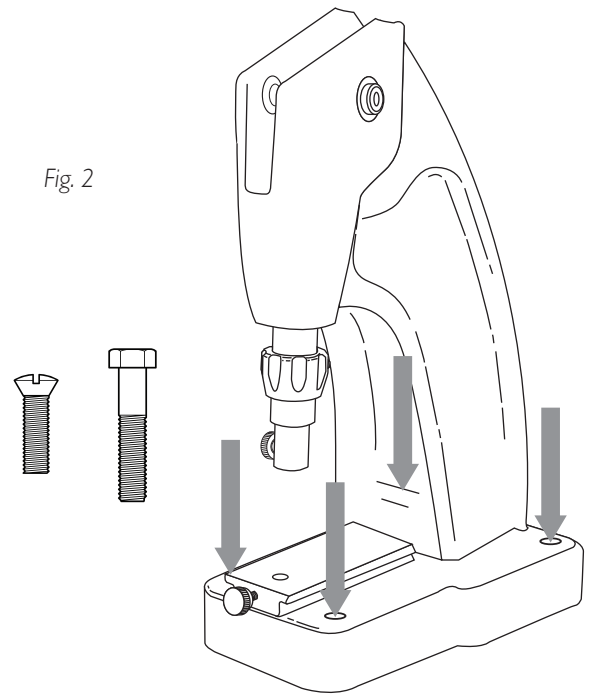

Fig. 2
- Mount the machine onto the surface (hardware not included). We recommend using 1/4" or 6 mm bolts and add corresponding washer and nuts to secure the machine into place. *Fig. 2*